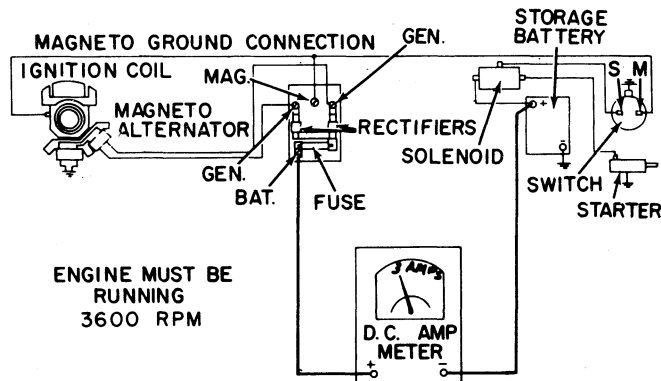

Figure 14
- Figure 14 shows how an ammeter is connected to check the alternator output with the battery connected. The lead from the battery terminal on the rectifier is disconnected. The positive ammeter lead is connected to the above terminal, and the negative lead is connected to the battery wire just disconnected from the rectifier. With the engine running the ammeter should read about three amperes.